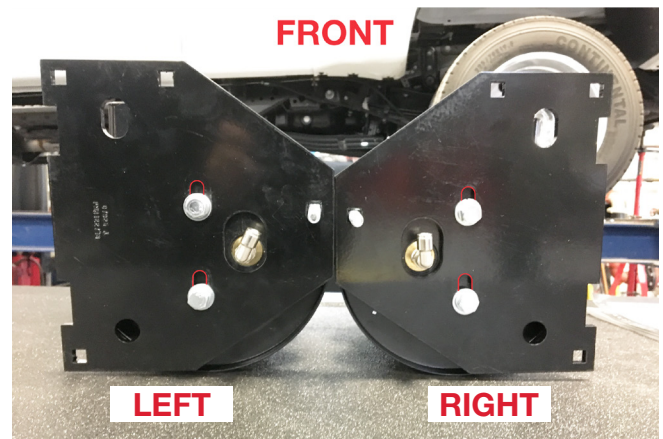

Fig. 8
- Insert 3/8"-16 x 1 1/4" carriage bolts (M) into the square holes on the brackets, then secure the upper air spring bracket (E) onto the top of the air springs using 3/8"-24 x 7/8" hex bolts (W), 3/8" lock washers (X) and 3/8" flat washers (R). At this stage, the air spring assemblies are left- and right-hand units. Push the brackets as far forward as possible (Fig. 8). Torque the hardware to no more than 20 lb.-ft. (27Nm).